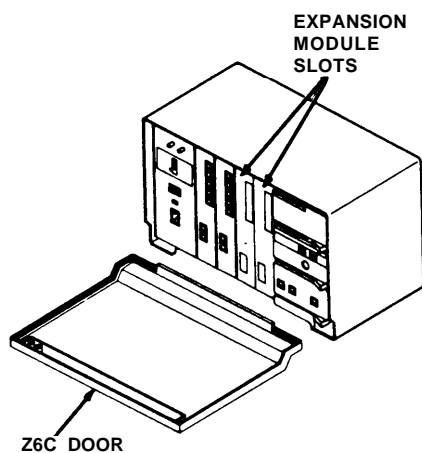

Figure 2
1. Open and remove the control unit door (see Figure 2).